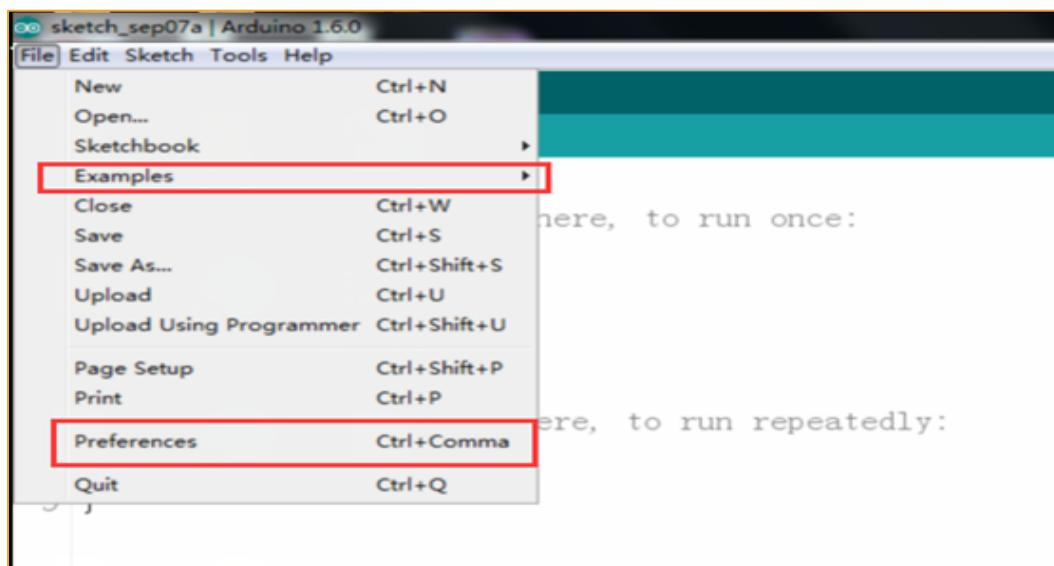

Figure 4-11 File menu bar options
- 2、There are 5 menus on the menu bar, but we mainly introduce File and Tools. Click File, the interface shown in Figure 4-11, you can see the Examples and Preference options.Examples are some of the Arduino's own programs, these are compiled and can be used normally, which is very helpful for beginners. The Preference option is mainly the setting of parameters, such as language, font, etc.